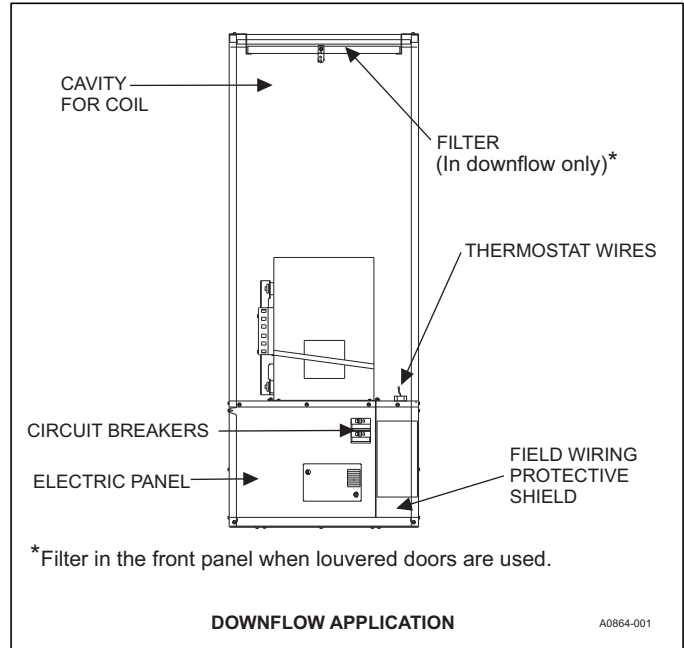

FIGURE 1: EB Downflow Component Locations
To remove blower from furnace, turn off power at household service box, turn furnace circuit breakers OFF. Disconnect wiring to blower, and remove five (5) screws holding blower in furnace and slide blower out from front of the furnace. See Figure 1 or 2.
Your electric furnace is equipped with a unique safety feature - circuit breakers. These circuit breakers are located behind the door of the furnace, near the bottom of the furnace. See Figure 1. If a component should fail inside the furnace, the circuit breakers will prevent damage that can be caused by an electrical short.
FILTER LOCATION: The furnace's front panel must be removed to gain access to the filter of the downflow furnace. (See Figure 1.) However, the filter for the upflow furnace* is located behind the return air grill, adjacent to the furnace closet or any other location in the return air.